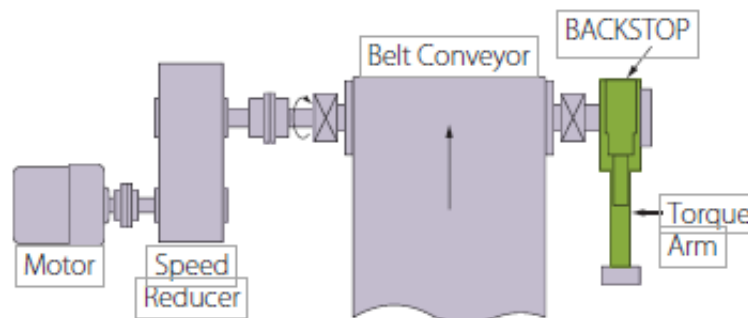

Figure 1
- Backstop for low speed application are directly mounted on extended Head or Drive pulley shaft opposite to the Drive as shown in fig.1